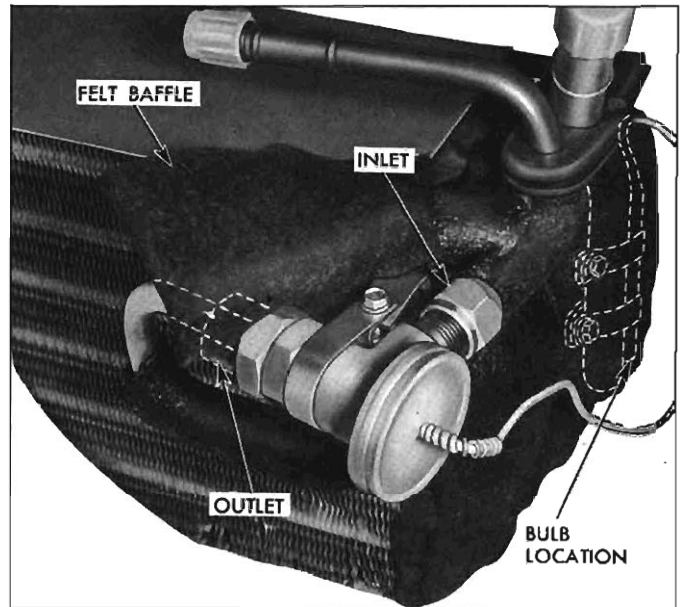

Fig. 11-25—Expansion Valve Connections
4. Remove expansion valve (fig. 11-25) from core and install on replacement core. See "Expansion Valve-Replacement."
2. See Fig. 11-25. Disconnect the pipe fittings from the expansion valve and remove the valve and capillary tubing. Note the position of the felt baffle on the core and expansion valve.